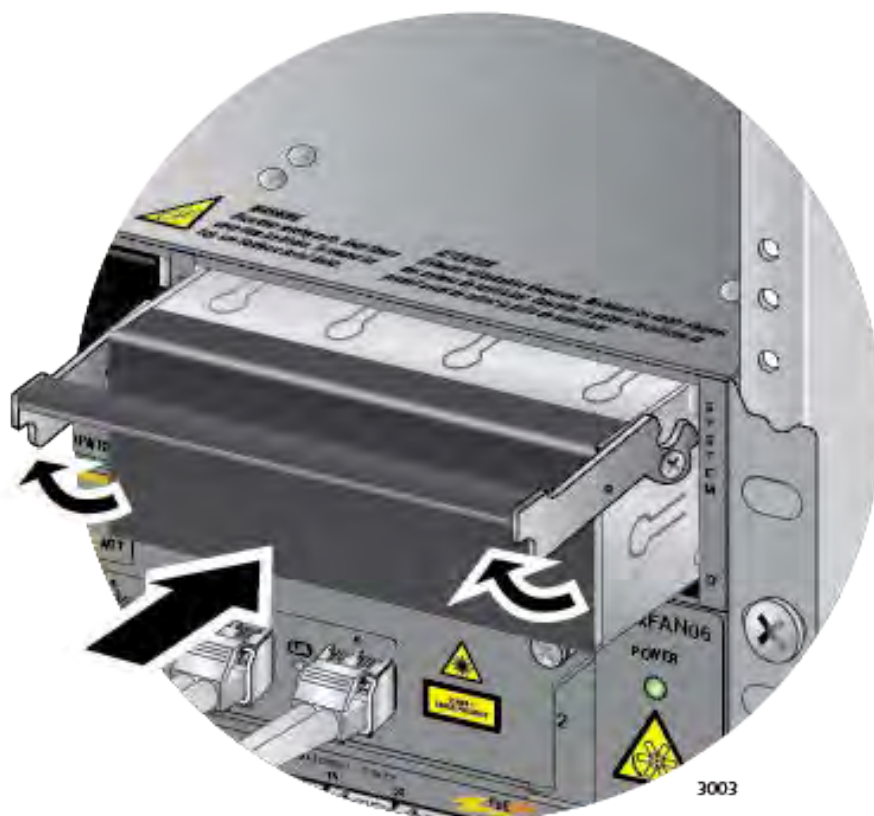

Figure 162. Installing a Blank Power Supply Slot Cover
5. Place the locking handle on the slot cover in the up position and slide the cover into the empty power supply slot. Refer to Figure 162 on page 264.